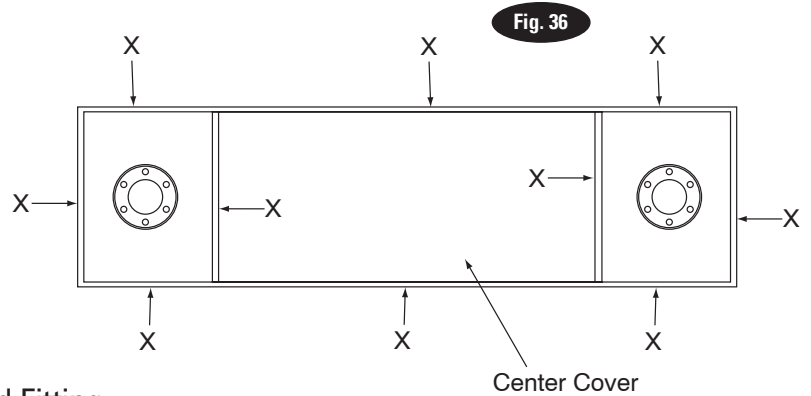

Fig. 36
**IMPORTANT** Clean areas indicated with X, Fig. 36, and seal with a premium 25 year silicone.